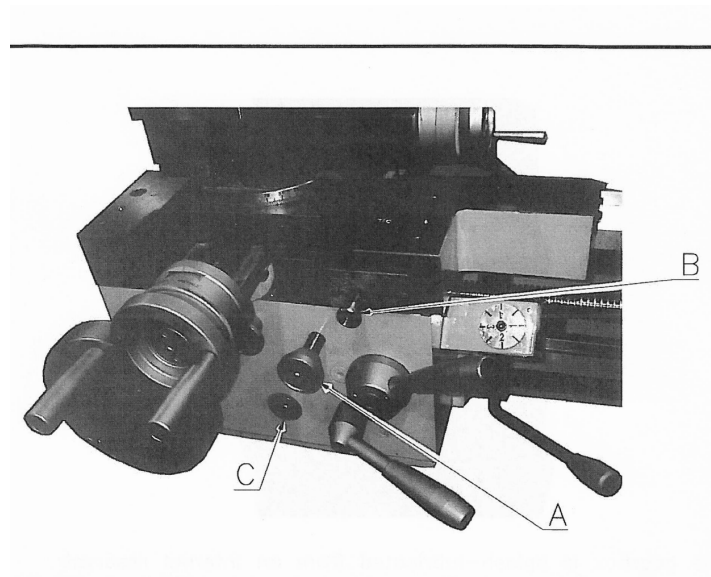

Figure 5-2: Apron lubrication
A manually operated lubricating pump (A) is built into the apron. It draws oil from the apron reservoir so that the slideways can be kept adequately lubricated (Figure 5-2).
- 2 Continue until oil flows from the tell-tale hole (B) in the carriage saddle. This shows that the system has received a full supply of oil.
- 3 If no oil appears at (B), refill the reservoir to the level of the oil sight (C) with oil R68.